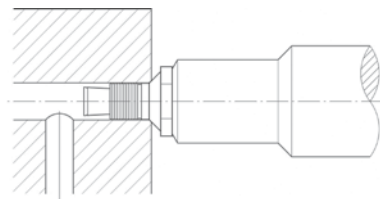

Fig.2
- / The mandrel will break apart when the proper tension has been reached (Fig. 2 and 3).